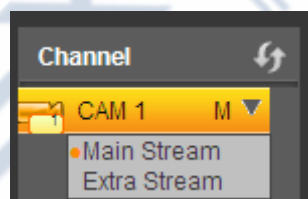

Figure 7-3
- Please refer to Figure 7-3 for main stream and extra stream switch information.